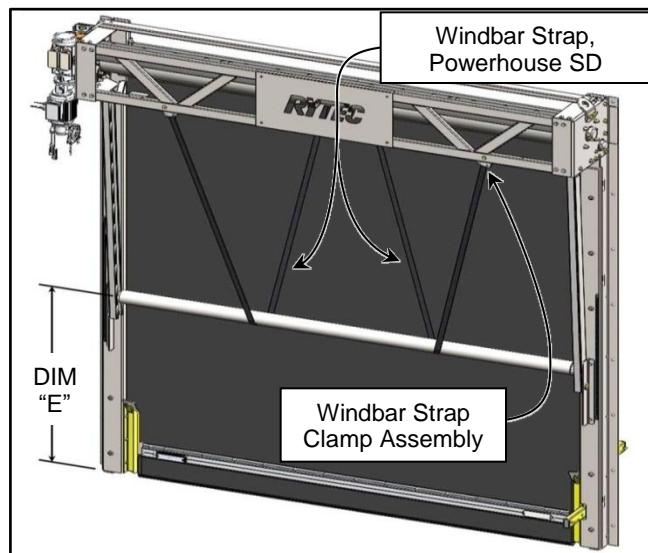

Figure 57
1. Close the door panel/bottom bar so the panel bottom bar is in full contact w/ the floor. Turn off the door's power. (See Figure 57)
7. Route the Windbar Straps down from the panel drum between the Windbar and Panel, under the Windbar, and back up in front of the Windbar to the Front Strap Clamp assemblies on either side of the Head Assembly Front Truss as shown. Make sure not to twist the straps, route them symmetrically, and along the shortest distance between the drum mount and the front truss mounted strap clamp assemblies. (See Figure 57)
9. Check that the Windbar is level and approximately Dim "E" from the floor to the Windbar centerline ("E" = Door Height / 2). Adjust the straps as required. (See Figure 57)
1. Close the door panel/bottom bar so the panel bottom bar is in full contact w/ the floor. (See Figure 57)